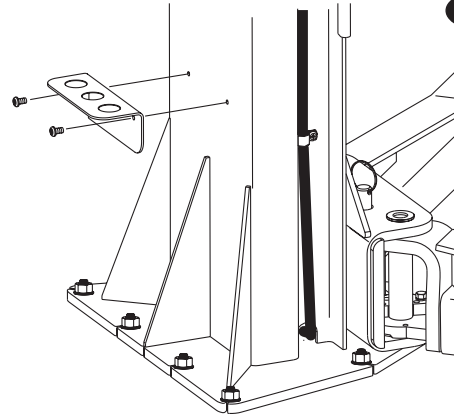

Fig. 20
18. Installation of Rack for Adapter Extensions: Install racks as shown, Fig. 20, using 5/16"-18NC x 3/8" PHMS.